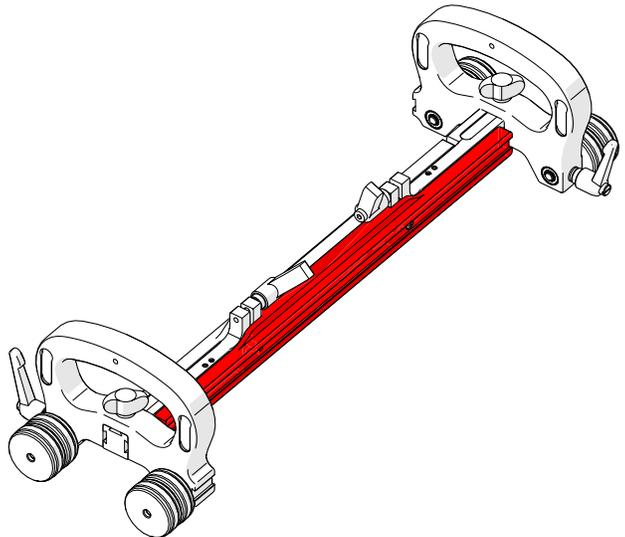

Fig. 95 - Phased array to longest bar
3. When performing a four probe scan, place phased array probe holders on the longest bar (Fig. 95) of the dual pivot frame bar (illustrated in red).